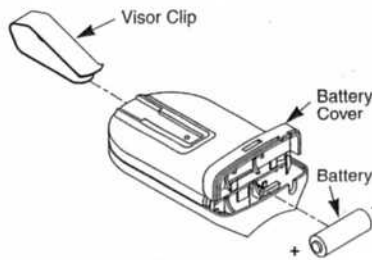

Fig. 3
Step 5-3 Attach Visor Clip to Transmitter **Fig. 3**.